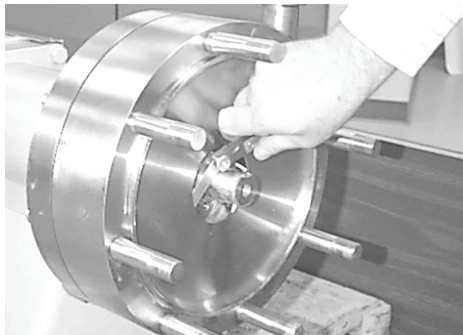

Figure 31
The Double Seal is essentially two similar seals assembled back to back in a chamber which bolts to the backplate. (Figure 31)
8. Place O-ring on backplate. Push backplate against ring. (Figure 31)